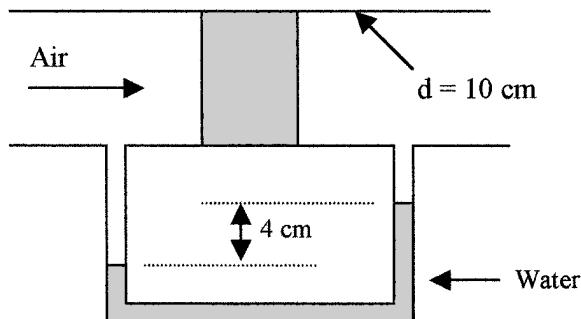

Fig. P6.101
**6.101** In Fig. P6.101 a thick filter is being tested for losses. The flow rate in the pipe is  $7 \text{ m}^3/\text{min}$ , and the upstream pressure is 120 kPa. The fluid is air at  $20^\circ\text{C}$ . Using the water-manometer reading, estimate the loss coefficient  $K$  of the filter.